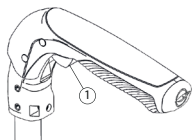

Fig. 10.2
- To fold or open push handle press on button (1) to engage the folding mechanism. (Fig 10.2).